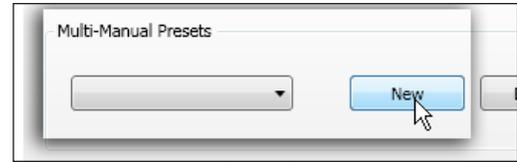

Figure 2.31
- Select the **New** button to open the **Manual Preset Name** dialog box (Figure 2.31).